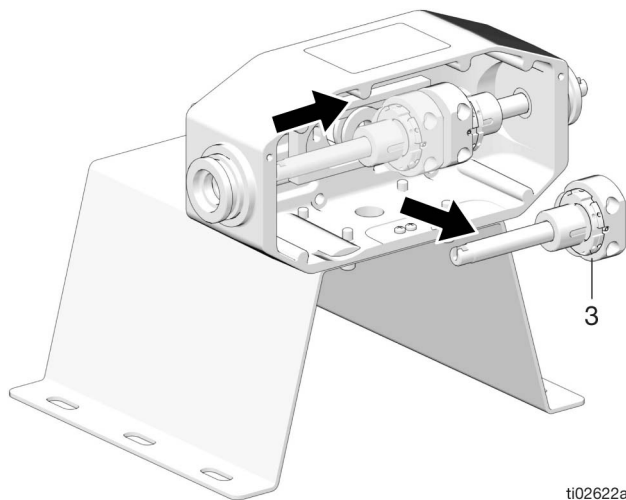

FIG. 33:
10. Slide the stroke adjusters (3) toward the center and pull out (FIG. 33).